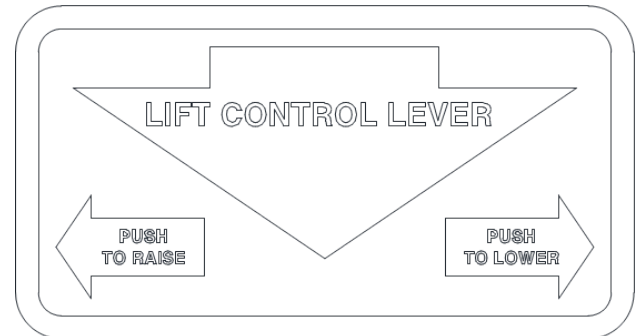

Figure 2
3. Raise the lift slowly by actuating the Air Control Lever to contact the bottom of the axle housing on the rear tandem axle. See Figure 2 for Air Control Lever instructions.